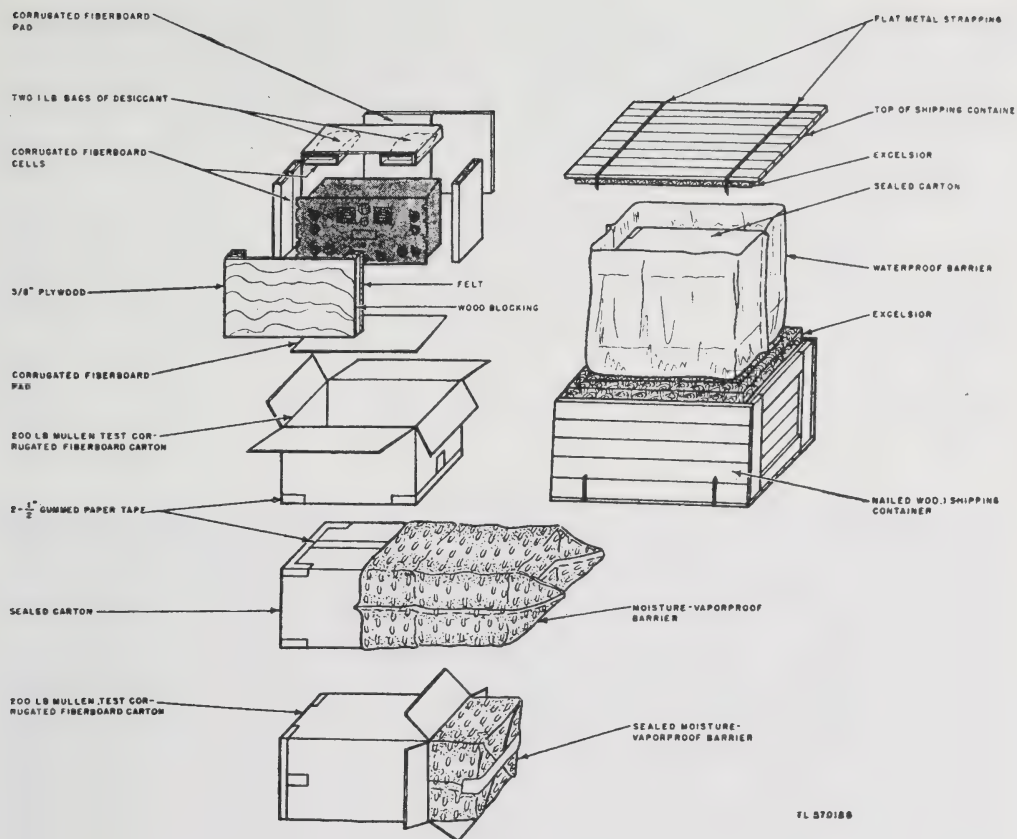

Figure 5. Packaging and packing of radio receivers.
b. Radio receivers are packaged and packed in general as illustrated in figure 5. Power supply
units are also packaged and packed as illustrated in figure 5. Both receivers and power supply units may require a partial disassembly in that plug-in units, such as vacuum tubes, unless they lock securely in their sockets, are removed. Particular attention is given to tubes over 4 inches in height. All loose wires, cables, or connections are compacted and secured against their respective units before packaging.